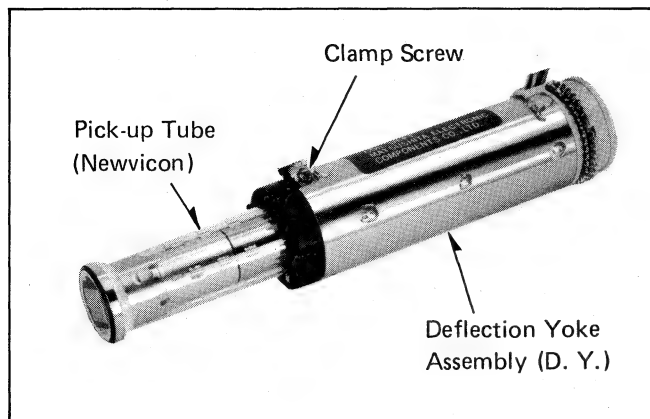

Fig. 10
- 3-9. Loosen the clamp screw and remove the pick-up tube from the deflection yoke assembly (D.Y) (see Fig. 10).